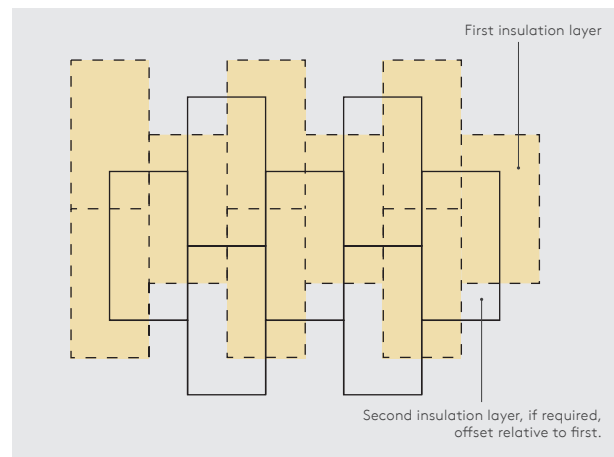

Figure 6 Offsetting of Multiple Insulation Layers
- In all cases, the layers should be horizontally offset relative to each other so that, as far as possible, the board joints in the two adjacent layers do not coincide with each other (see Figure 6).